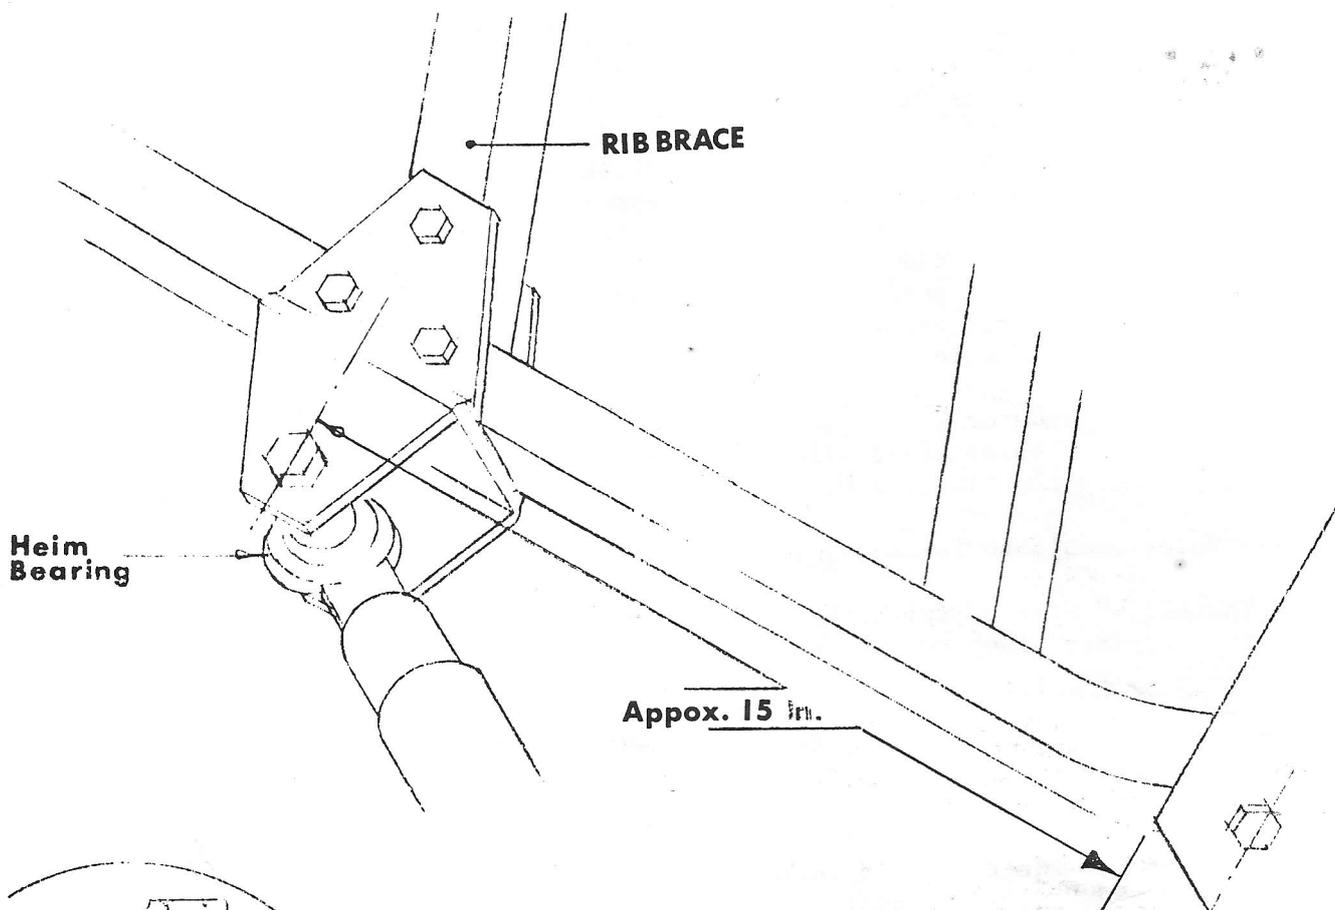

FIG. 1
1. Install the rib bracket on the same rib that held the azimuth tube bracket. The bracket is positioned approximately 15" from the edge of the back hub plate to the center of the bracket. (Ref: Fig. 1) Drill three 5/16" holes through the rib and rib brace, using the bracket holes as a guide. Bolt the bracket to the rib and brace using (3) 5/16" x 2" bolts. Secure the bracket, using three 5/16" flatwashers and three 5/16" nyloc nuts.
4. Install the 1/2" x 1 1/4" spacer bushing in the heim bearing at the screw jack end of the actuator, then mount the actuator to the rib bracket using one 1/2" x 2-3/4" bolt, lockwasher, and nut. (Ref: Fig. 1)